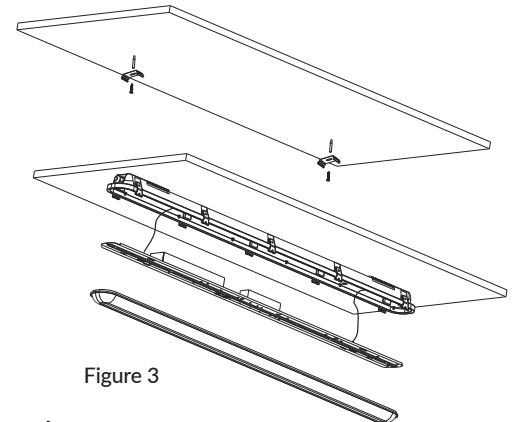

Figure 3
3. **For Surface mount:** Locate position of light fixture installation. Drill holes in mounting surface for mounting brackets. The spacing between the 2 brackets should be min. 11" to max. 16" for VVT2 and min. 31" to max. 36" for VVT4. Use provided hardware to secure the mounting brackets to the mounting surface. Attach the fixture housing to the mounting brackets by pushing the fixture housing up to the mounting brackets until the mounting brackets snap into place. The mounting brackets should hold the fixture firmly in place. If not, assess the mounting situation and troubleshoot. (Figure 3)